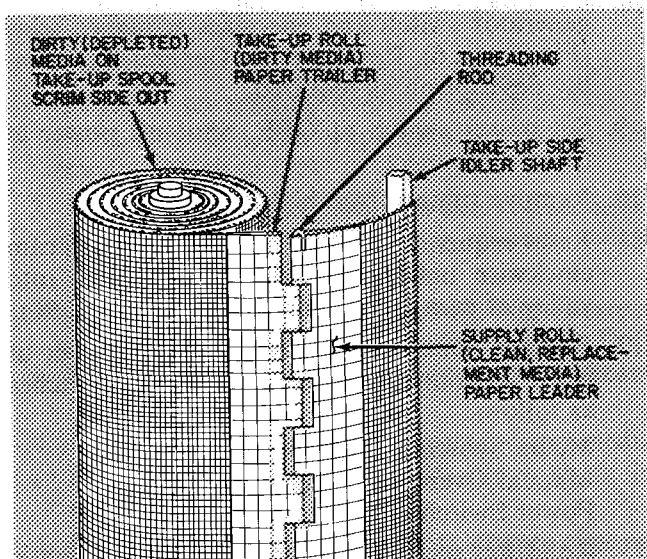

Fig. 9 — Replacement Media Roll Spliced to Depleted Media Roll
6. Connect paper leader of replacement media roll to paper trailer of depleted media roll by using threading rod (Fig. 9).